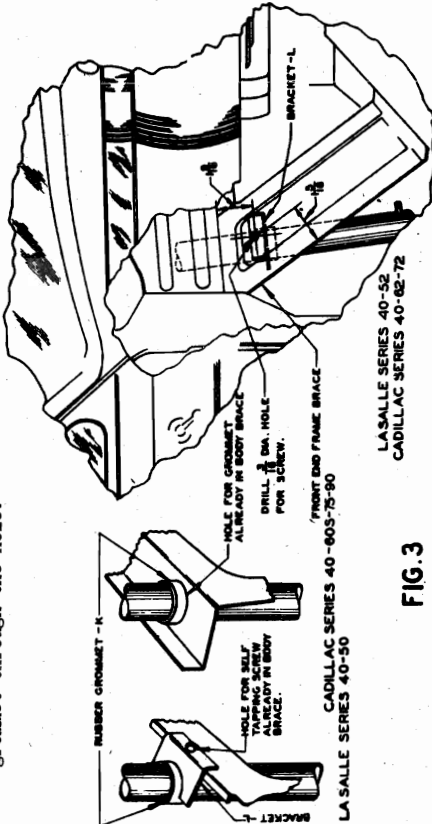

FIG. 3
4. Attach the bottom antenna support bracket (L) to the front end body brace on Series 40-50, 52, 62 and 72 with self tapping screw, as shown in Fig. 3. The hole is provided in Series 40-50 but must be drilled in Series 40-52, 62 and 72. On Series 40-60S, 75 and 90 this support is built into the body brace and it is only necessary to insert the rubber grommet through the hole.
5. Lower the antenna assembly through the hole in the cowl and put on rubber grommet (K) in Fig. 3 and washer (J) and rubber spacer (H) in Fig. 4.